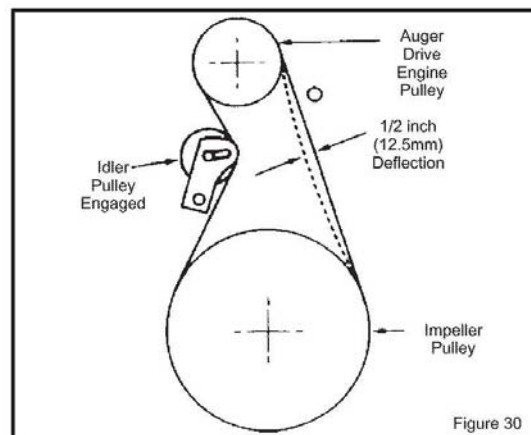

Figure 30
5. Have someone engage auger drive clutch. Check tension on belt (opposite idler pulley). Belt should deflect about 1/2 inch (12.5 mm) with moderate pressure (Figure 30). You may have to move idler pulley more than once to obtain the correct tension.